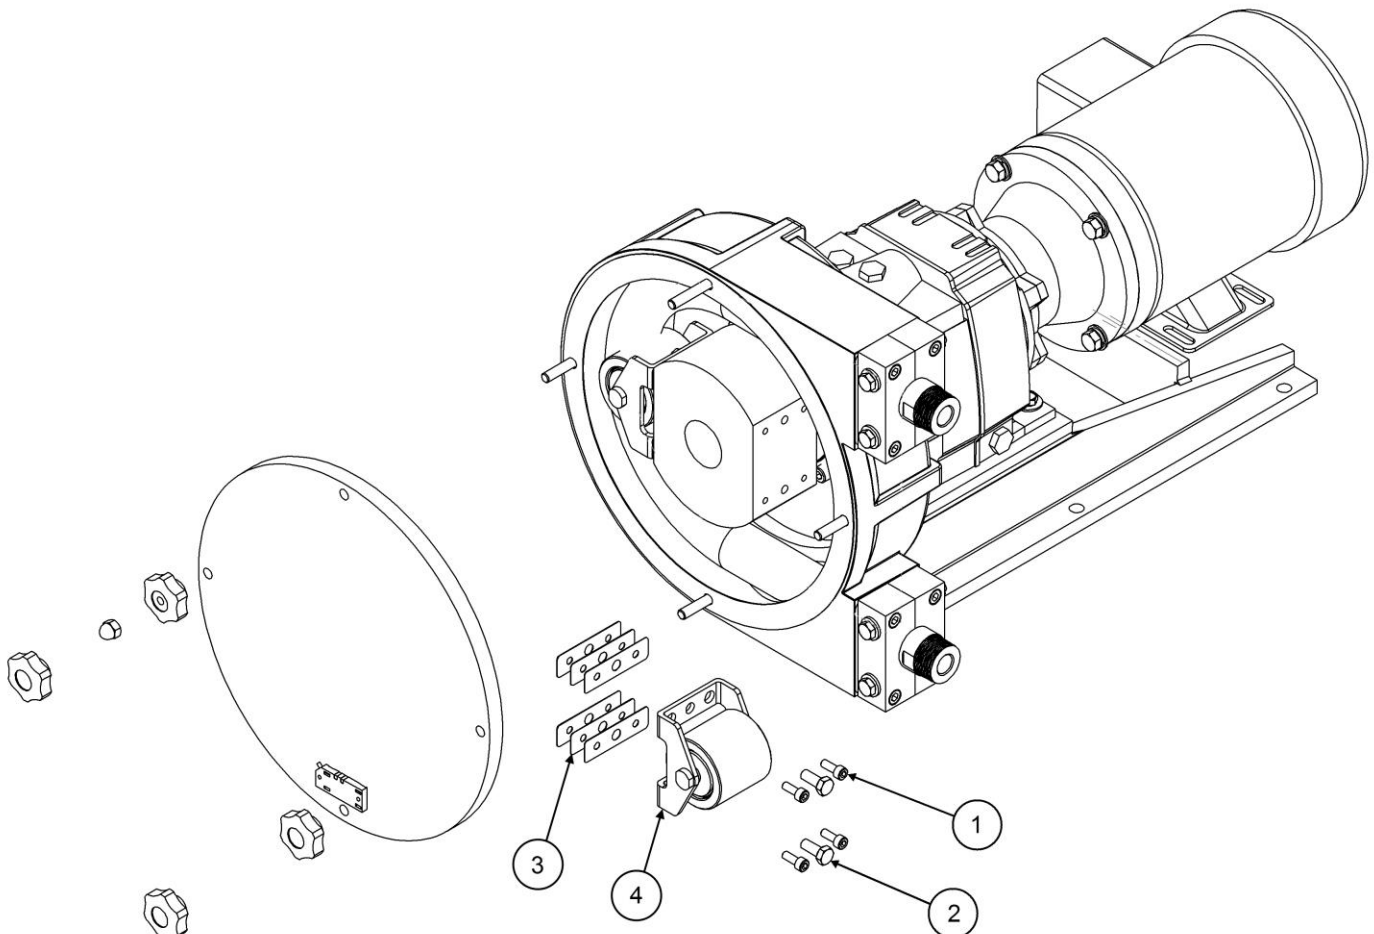

Figure 6 - CT22 Shimming
5. Refer to Figure 6 for item identification. Remove the front cover knobs and locking hardware to access the inside of the pump, continuing to follow safety precautions as appropriate.